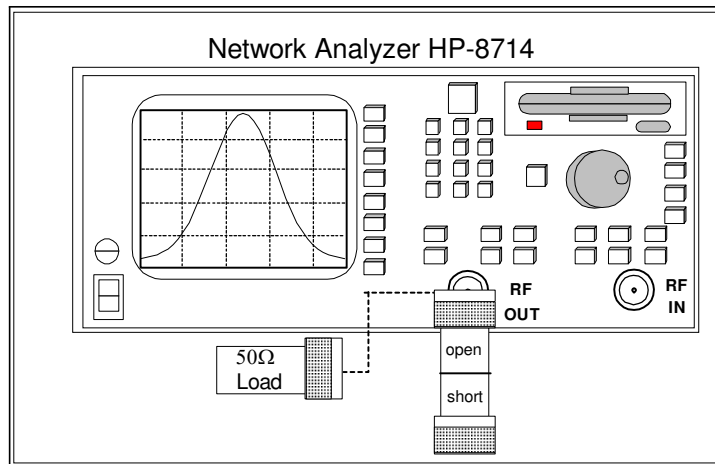

Figure 5 - Calibration for Reflection measurement
1. Connect the system as indicated in the Figure 5.